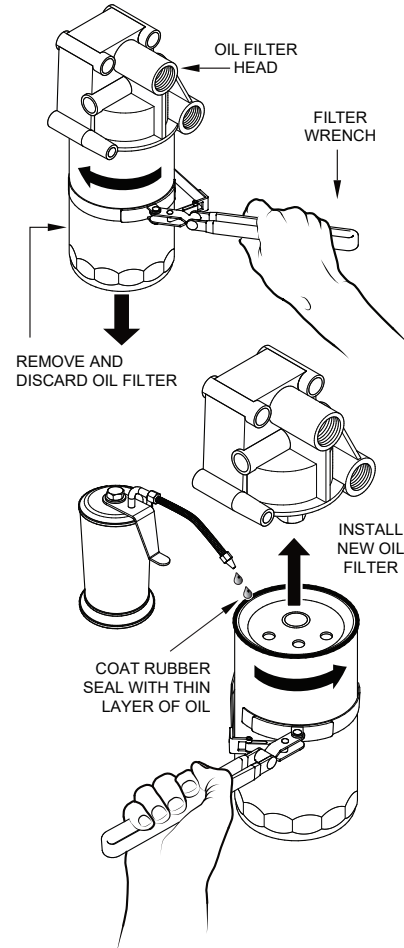

**Figure 89. Draining The Engine Oil**
3. Remove the **oil drain cap** (Figure 89).